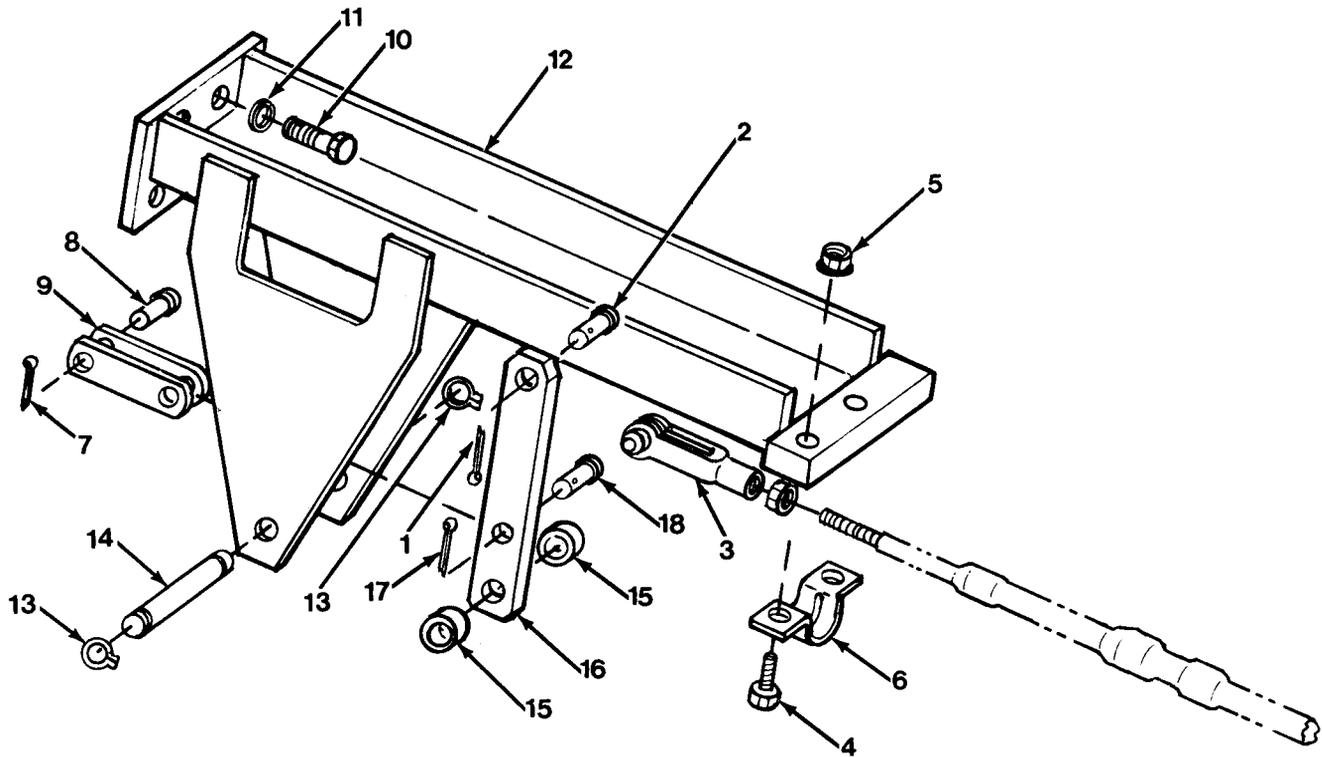

Figure 11-1
1. Position bracket (12) over mounting holes in frame and install four washers (11) and cap-screws (10, Figure 11-1).
2. Position clamp (6) over cable on bracket (12) and install two screws (4) and lock nuts (5).
3. Position clevis (3) on lever (16) and install pin (2) and cotter pin (1).
4. Install pin (8) through two straps (9) and install cotter pin (7).